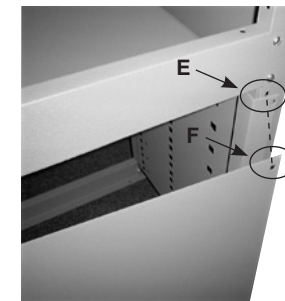

Fig. 5
1. Attach Drawer Stop (E) between Back Wall Panel (F) and End Panel (A), attach with (4) Fasteners (H), as shown in Fig. 1, Fig. 5 aligning holes in all four pieces (F, E, A, B).
2. For ease of assembly, turn unit upside down to attach bottom fasteners as in (1) above.